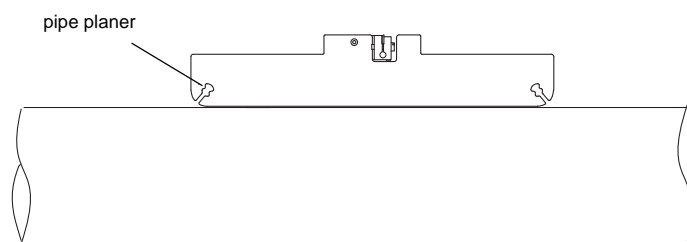

Fig. 2.1: Checking the evenness of the measuring point on the pipe
- The measuring point on the pipe must be as even as possible. Check the evenness with the upper side of the pipe planer (see Fig. 2.1).